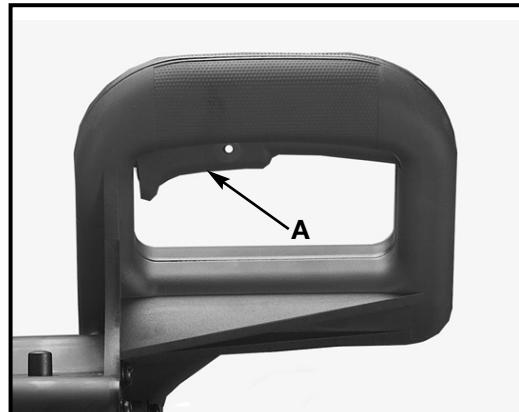

Fig. 10
To start the machine, depress switch trigger (A) Fig. 10. To stop the machine, release the switch trigger.
This saw is equipped with an automatic electric blade brake. As soon as the switch trigger (A) Fig. 10, is released, the electric brake is activated and stops the blade in seconds.
WARNING A TURNING SAW BLADE CAN BE DANGEROUS. AFTER COMPLETING CUT, RELEASE SWITCH TRIGGER (A) FIG. 10, TO ACTIVATE BLADE BRAKE. KEEP CUTTINGHEAD DOWN UNTIL BLADE HAS COME TO A COMPLETE STOP.